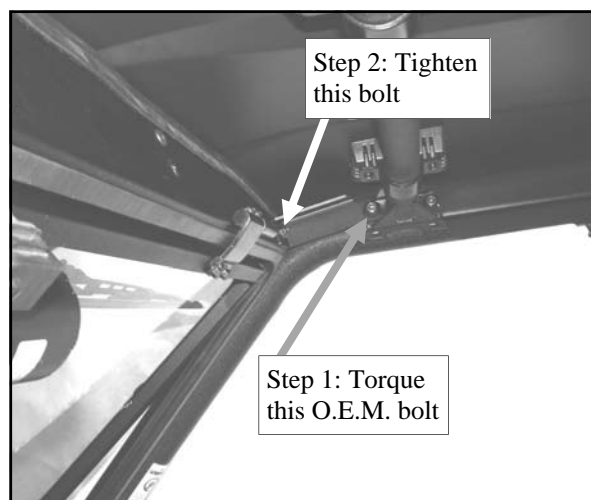

Fig. 8.7 (View of inner right side)
8.7 See fig. 8.7. Torque both loosened R.O.P.S. bolts (one per side) to 47 ft.-lbs. (64 N-m) at this time. Tighten the 5/16" bolts (one per side) which were loosened for ease of installation.